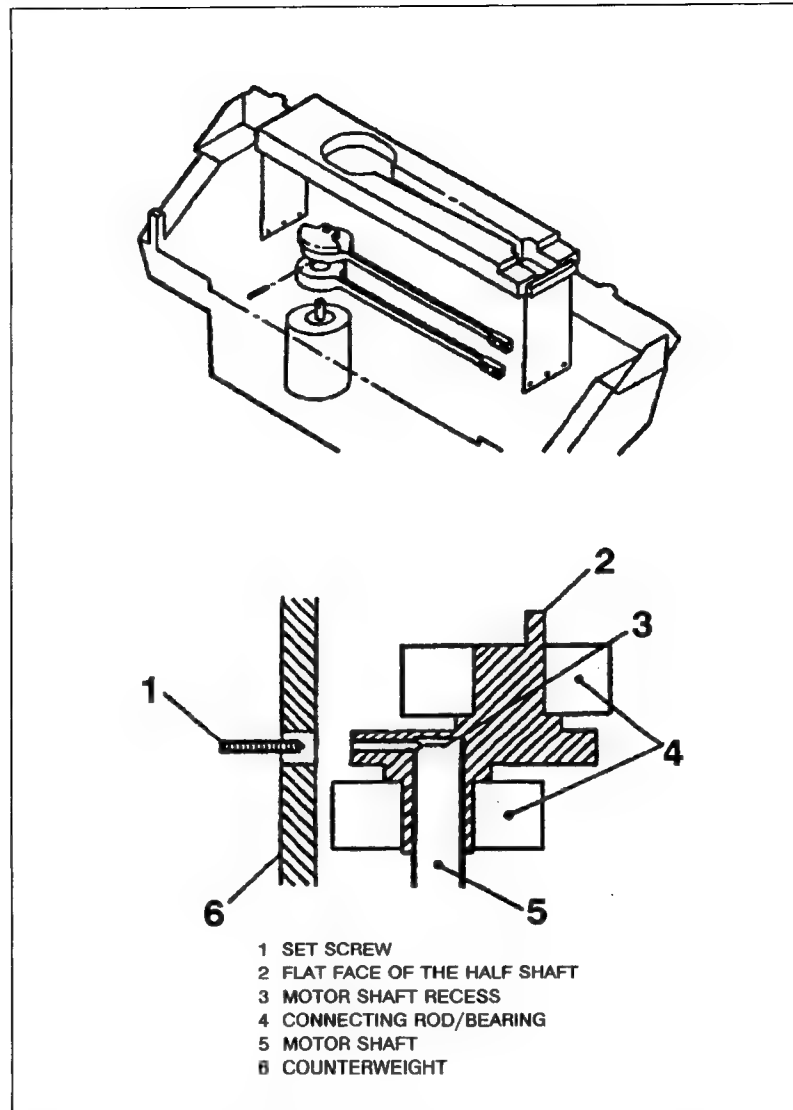

Figure 6-15. Aligning Crank Arm Assembly and Motor Drive Shaft
- 2) the cut-out portion of the crank arm assembly faces up (see Figure 6-15).